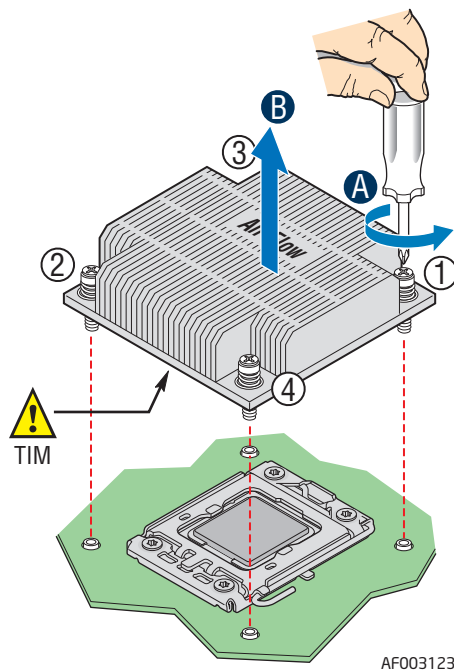

Figure 19. Removing the Heatsink
5. Loosen the four captive screws on the heatsink corners in a diagonal manner according to the numbers shown in Figure 19 as follows:
- a. Starting with the screw at location 1, loosen it by giving it two rotations in the anticlockwise direction (see letter “A” in Figure 19) and stop. (**IMPORTANT:** *Do not fully loosen.*)
7. Lift the heatsink from the processor (see letter “B” in Figure 19). If it does not pull up easily, twist the heatsink again. Do not force the heatsink from the processor. Doing so could damage the processor.